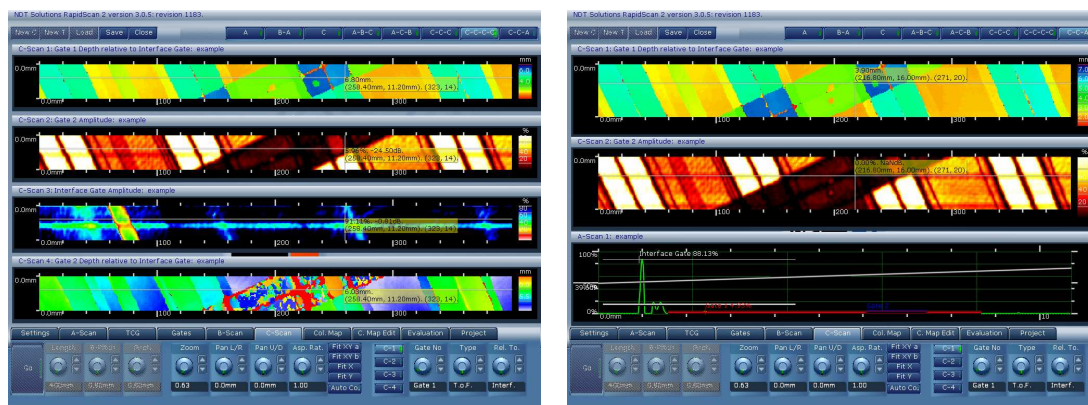

Figure 23: C-C-C-C View and C-C-A View
- **C-C-C-C** Four smaller-sized views of C-scans (Figure 23)
- **C-C-A** Two medium sized C-scan views and a single large A-scan view (Figure 23)